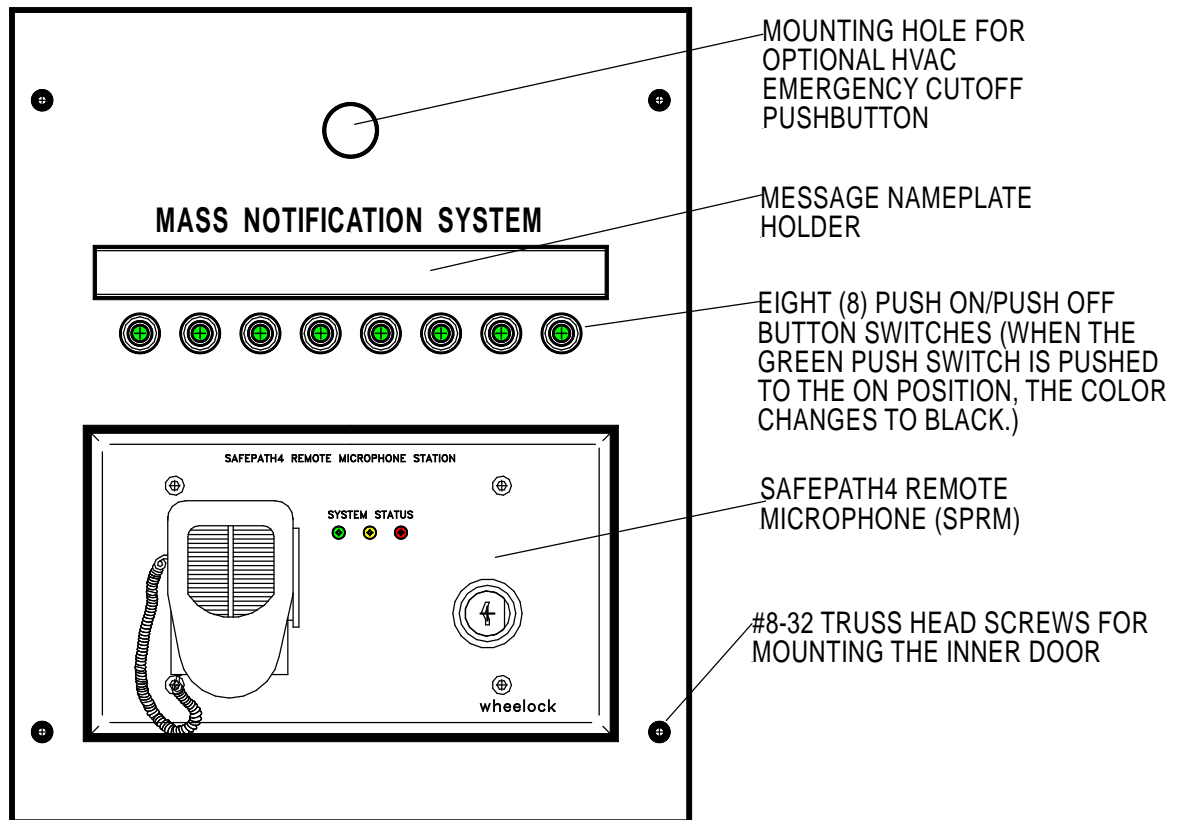

Figure 2. Inner Door Assembly
1. Remove the FRONT DOOR ASSEMBLY from the backbox by removing the eight (8) nuts holding the assembly in place.
2. Remove the INNER DOOR ASSEMBLY (Figure 2) and terminal block from the backbox.